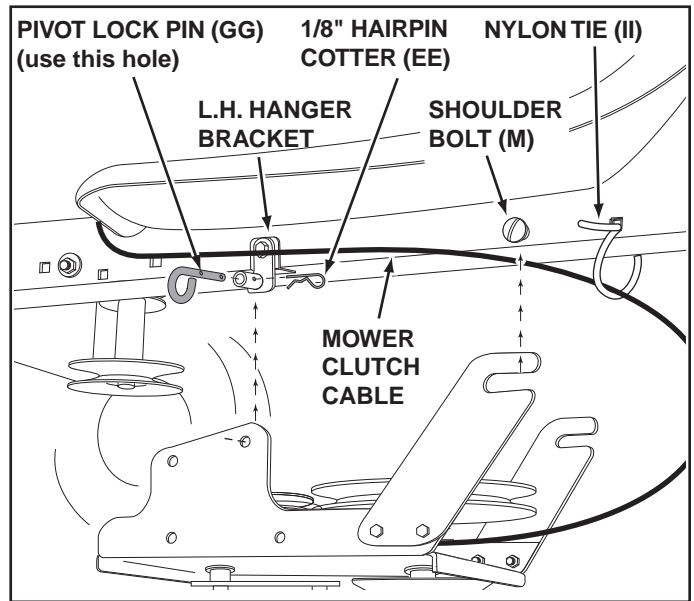

FIGURE 12 VIEWED FROM LEFT SIDE
STEP 12: (SEE FIGURE 12)
- Attach the clutch/idler assembly to the tractor frame. Hook the notched suspension arms onto the two shoulder bolts (M) assembled to the outside of the tractor frame. Lift the front of the assembly and attach it to the R.H. and L.H. hanger brackets using two pivot lock pins (GG) and 1/8" hairpin cotters (EE).
- Loosely attach the mower clutch cable to the left side of the tractor frame with a nylon tie (II). **Do not pull** the nylon tie completely tight. The cable may need to be removed from the nylon tie when using the mower deck.